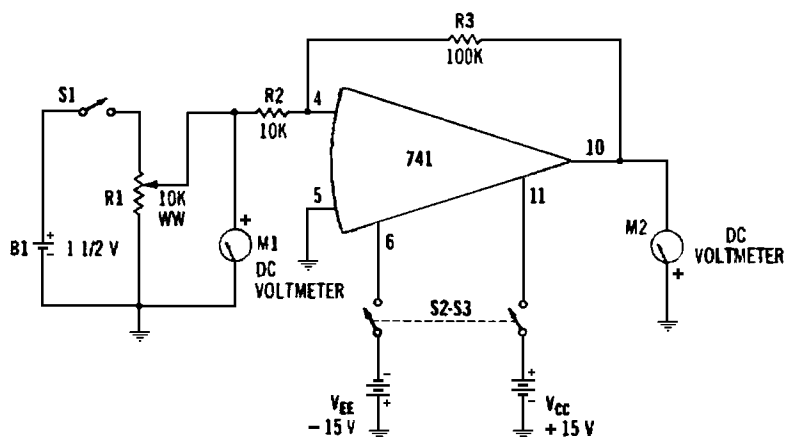

Fig. 2-11. Closed-loop dc voltage gain (inverting).
### Required Equipment (Figs. 2-11 and 2-12)
1. With switches S1 and S2-S3 open and with potentiometer R1 set to zero, set up the test circuit as shown in Fig. 2-11. Watch the meter polarity.